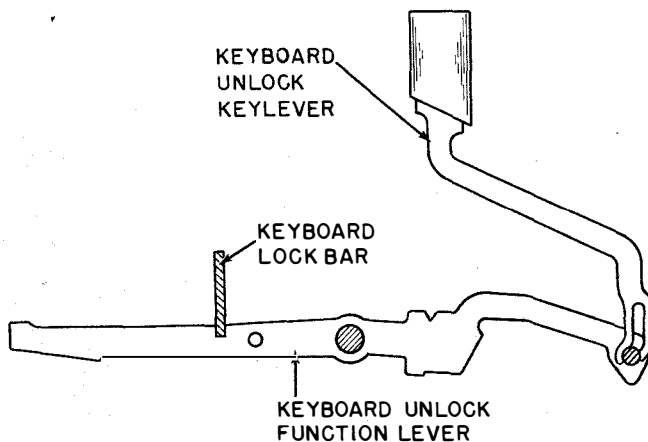

Figure 2-27. Keyboard Unlock Mechanism
j. **KEYBOARD UNLOCK MECHANISM.**—Operation of the keyboard unlock keylever (red) causes its function lever to rise against a camming surface on the keyboard lock bar and drive the bar toward the left until the lock bar pawl drops into a notch in the lock bar (figures 2-27 and 2-28). In this position, the projections on the lock bar lie between the code levers and offer no interference with their operation.